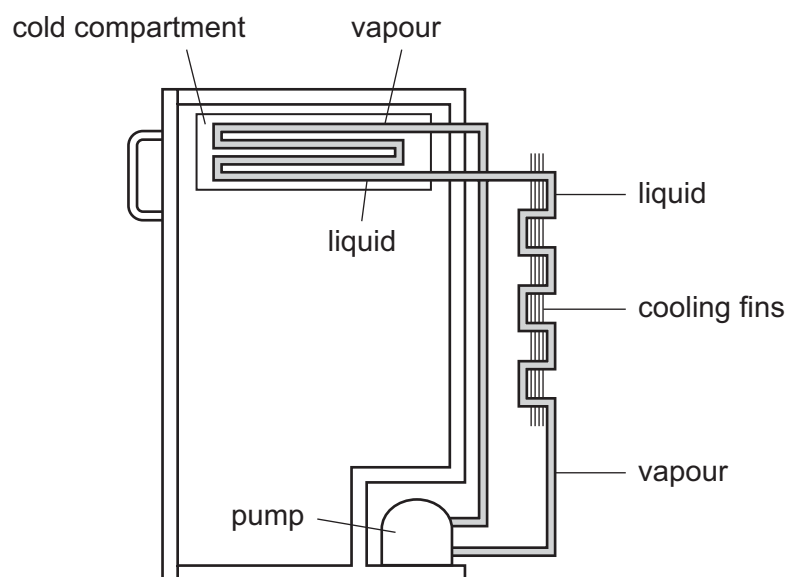

Fig. 7.1
- 7 Fig. 7.1 shows a refrigerator in which a liquid absorbs thermal energy from the cold compartment and evaporates. As the vapour is compressed by the pump, work is done on it. The vapour condenses, giving out thermal energy to the surroundings through the cooling fins on the back of the refrigerator.